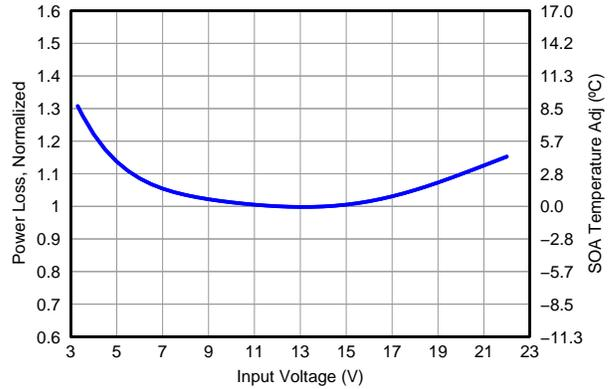

Figure 13. Normalized Power Loss vs Input Voltage
- Normalized Power Loss for input voltage \approx 1.05 (Figure 13)
- SOA adjustment for input voltage \approx 1.4 $^{\circ}$ C (Figure 13)